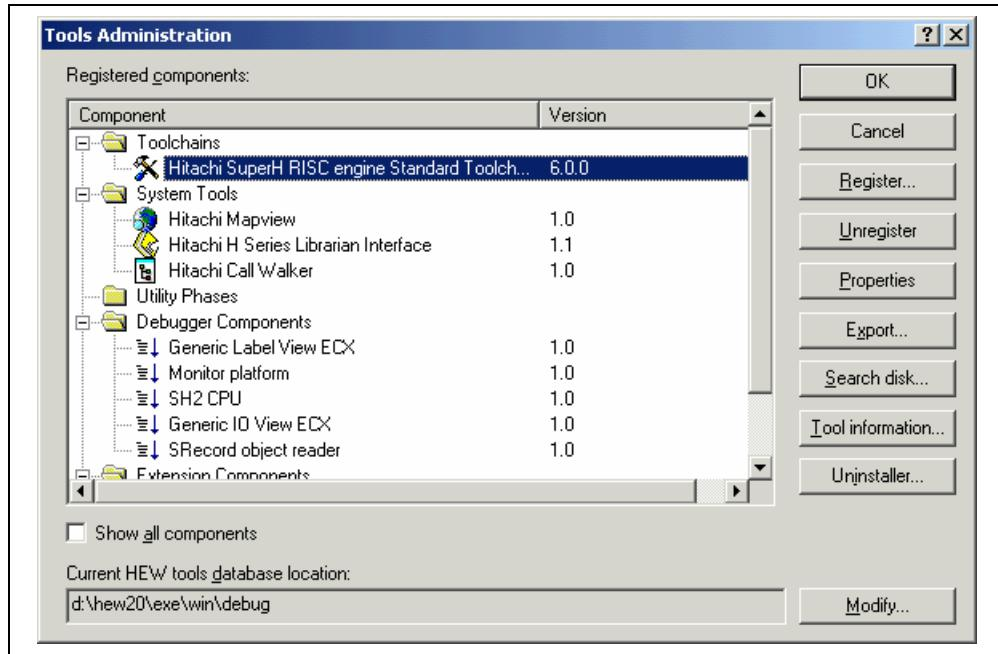
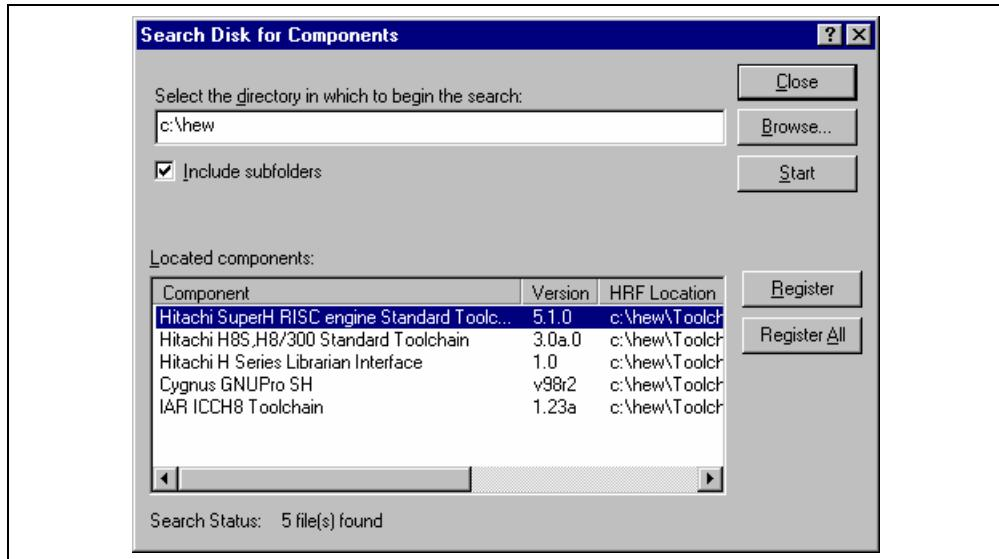

Figure 5.1: Tools Administration Dialog (Example)
Figure 5.3: Search Disk for Components Dialog
You control the components, which can be used by the High-performance Embedded Workshop via the “Tools Administration” dialog (figure 5.1), which is invoked via [Tools->Administration...]. Modification of the “Tools Administration” dialog box is only possible when no workspace is open, while only reference is possible when a workspace is open.
In order to use a component with HEW it must first be registered. The “Tools Administration” dialog (figure 5.1) shows all currently registered components. To access it, ensure no workspaces are open and then select **[Tools->Administration...]**. If you attempt to access tools administration when there is a workspace open the tools administration dialog is opened but cannot be modified. When HEW is installed by default any new tools are automatically registered.
1. Click the “Search Disk...” button on the “Tools Administration” dialog (figure 5.1). The “Search Disk for Components” dialog will be displayed (figure 5.3).